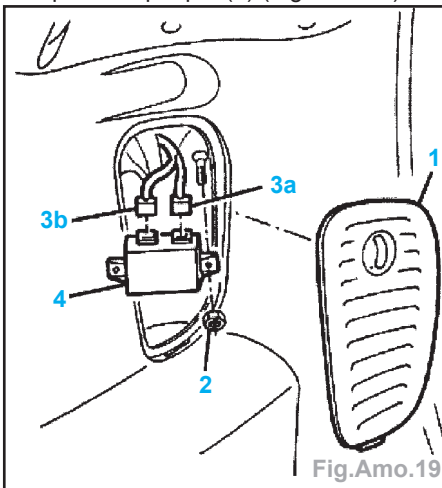

Fig.Amo.19
- Déposer la plaque (1) (Fig.Amo.19).